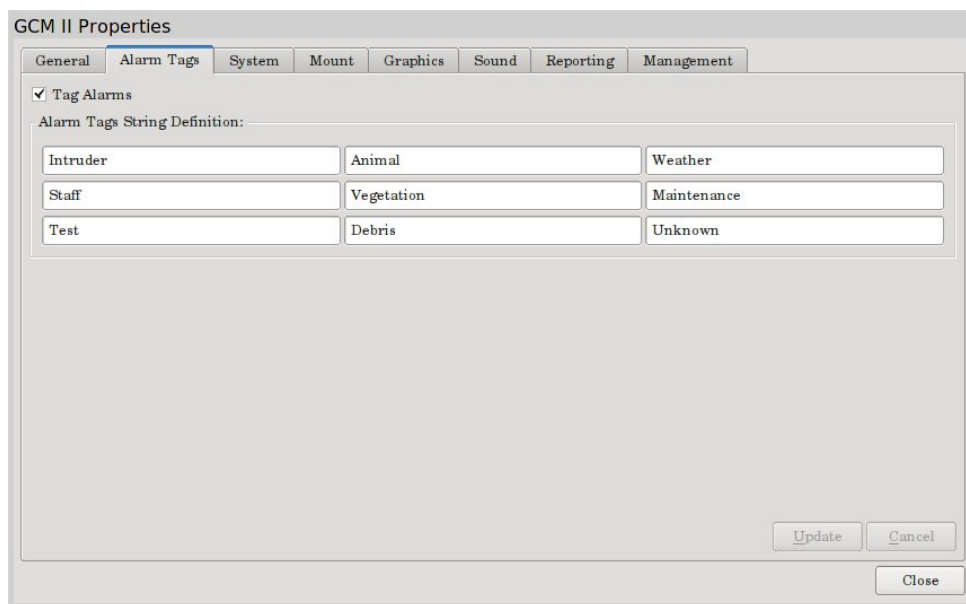

Figure 11 – Alarm Tags
Selecting the “Alarm Tags” tab will open the screen as shown in Figure 11. There are nine (9) default alarm tags defined. They are: Intruder, Staff, Test, Animal, Vegetation, Debris, Weather, Maintenance and Unknown. To activate alarm tagging, the check box next to “Tag Alarms” must be selected. The tag names can also be changed to meet site requirements. Highlight the word, type in new word then select “Update” to save the change. *Note: changing the name after the system has been running will make it difficult to get search results from the log file for alarm reports.*